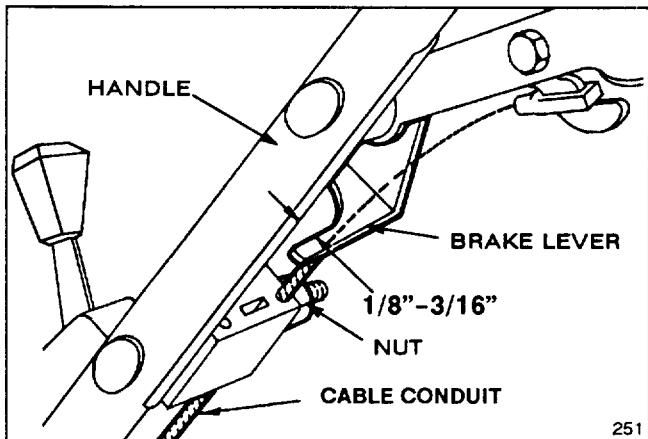

Figure 25
2. CHECK ADJUSTMENT (Fig. 25) — Move control bar toward handle until slack in wire is removed. Gap between brake lever and handle must be 1/8"-3/16". See step 3 for adjustment.
3. ADJUST CABLE CONDUIT (Fig. 25) — Loosen nut on cable bracket. Insert 1/8"-3/16" object between brake lever and handle. Pull down on cable conduit until all slack is removed from wire. Then tighten nut.